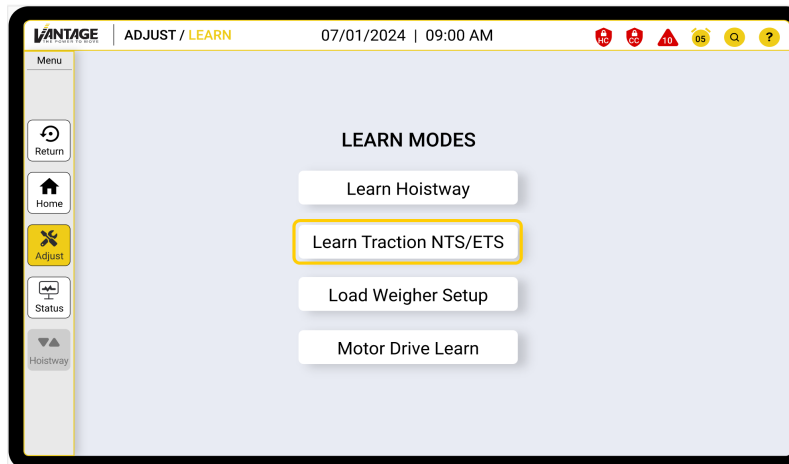

Figure 49: Learn Traction NTS/ETS
4. Select Learn Traction NTS as shown in **Figure 49**